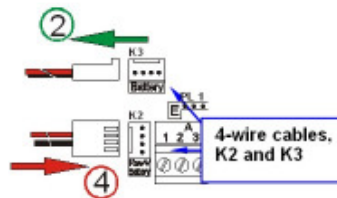

Fig. 3, Power connectors K2 and K3
We recommend the following procedure to avoid damaging the calculator, see fig. 3 below.
2. Remove the power supply by removing the 4-wire cables “K2” and “K3”, see fig 3.
4. Turn the power back on by connecting the 4-wire cables “K2” and “K3”, see fig 3.